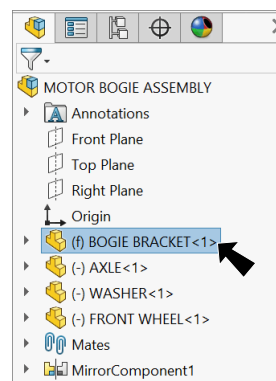

Fig. 1
Step 2. Click the **BOGIE BRACKET**  component in the Feature Manager to select the component, **Fig. 1**.